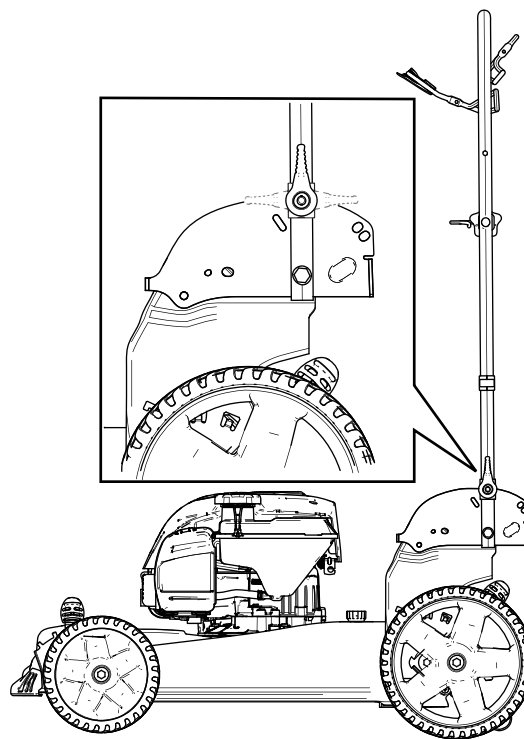

Figure 28
3. Fold the handle forward either to the vertical position or the fully forward position as shown in Figure 28.